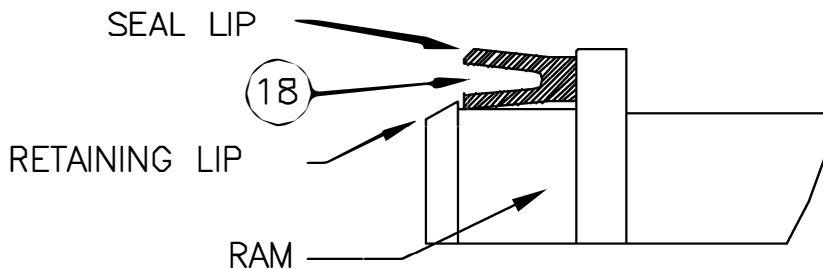

FIGURE 11
2. Apply a small amount of grease to the interior (I.D.) section of the seal 18 (see Figure 11). Slide the seal over the retaining lip of ram with the lip end of the seal away from the ram (see Figure 11).
5. Apply a small amount of grease to the lip sections (O.D.) of the seal. Carefully insert the ram into the cylinder (being careful not to damage the lip surfaces of the seal 18 (see Figure 11)).